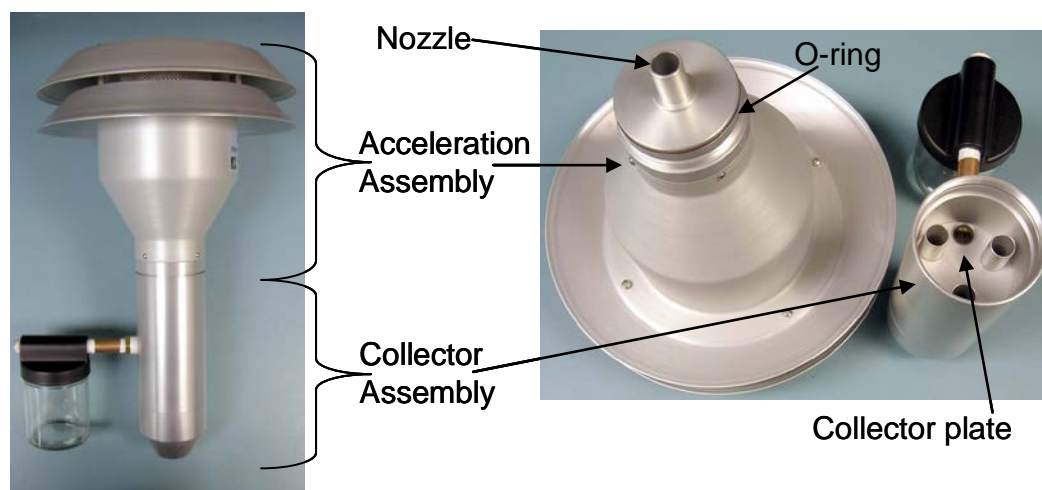

Figure 5-4. Diagram of PM₁₀ head inlet components (Vaughn and Ray, 2011).
2. Unscrew the collector assembly from the acceleration assembly as shown in Figure 5-4.